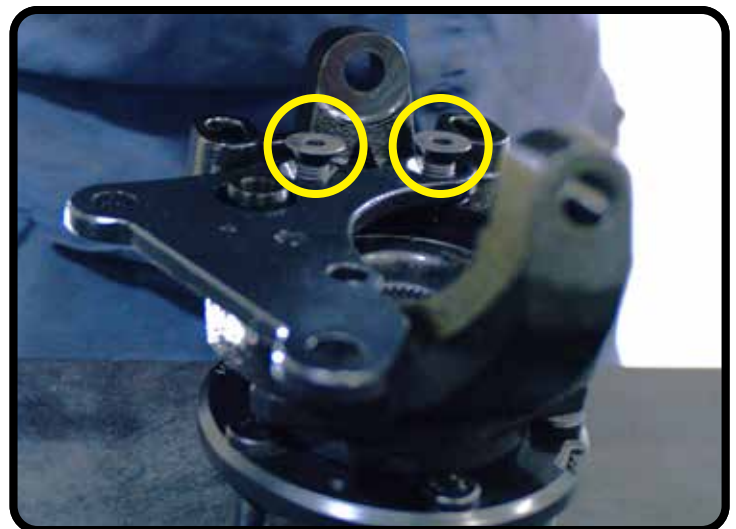

Figure 12
**17.** Insert a 1/2"-13 x 1.25" flat-head bolt into each of the countersunk holes on the bracket (Figure 12).